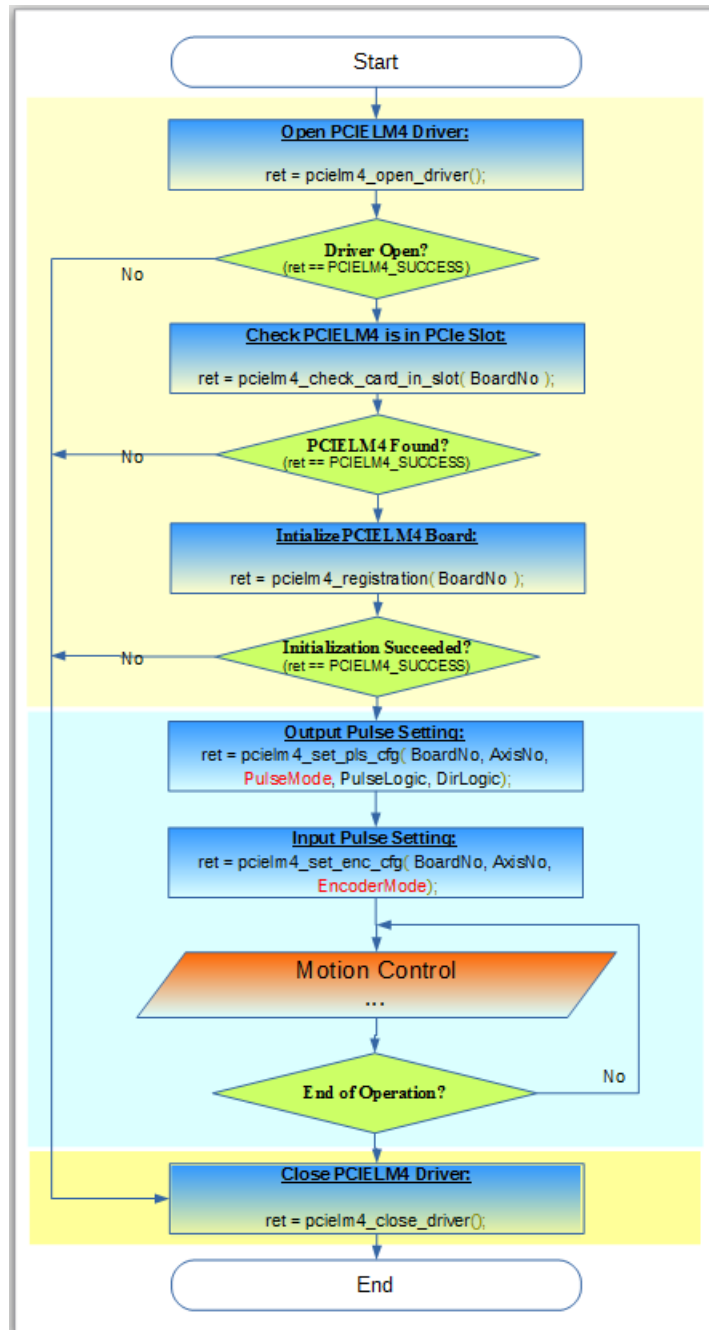

Figure 1: Initialization procedure
- see flow chart Figure 1
- This function ensures that the PCIELM4 module is ready for executing motion commands. It is important to call this function before using the any other motion related APIs (Figure 1).